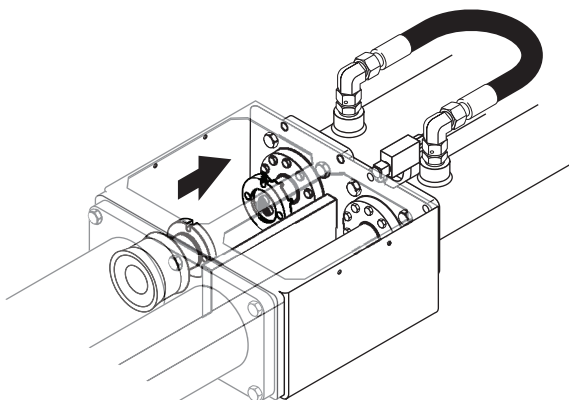

Figure 29
5. Restart the engine and clear all E-stop requests. Press the concrete pump forward or reverse button and ram change button simultaneously. Slowly retract the rod again (Figure 29), until there is room to install the spacer coupling.